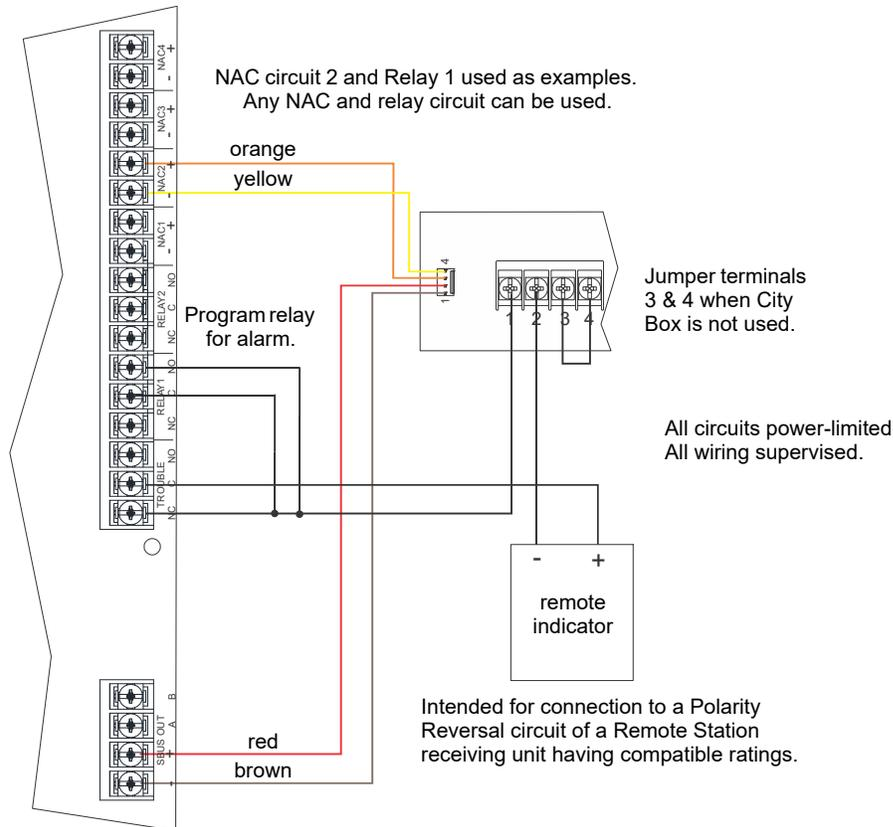

Figure 4.43 Polarity Reversal Connection Using the 5220 Module
2. Wire the 5220 to the control panel using the four-wire pigtail provided as shown in Figure 4.43. This diagram also shows how to connect the 5220 to the remote indicator. Do not install an EOL resistor in the terminals of the NAC circuit used for this application.